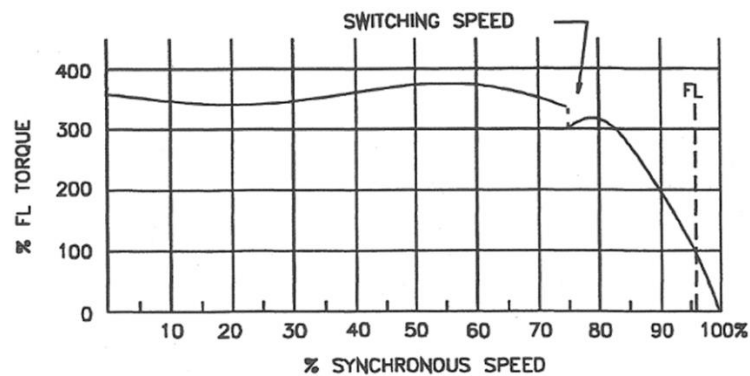

Figure 10 - Typical characteristic curve of a capacitor start motor
29. A typical characteristic curve for a split phase motor is shown in Figure 10. The starting torque can be up to about 2.5 times the starting torque of an equivalent split phase motor - depending on the capacitor chosen by the manufacturer.